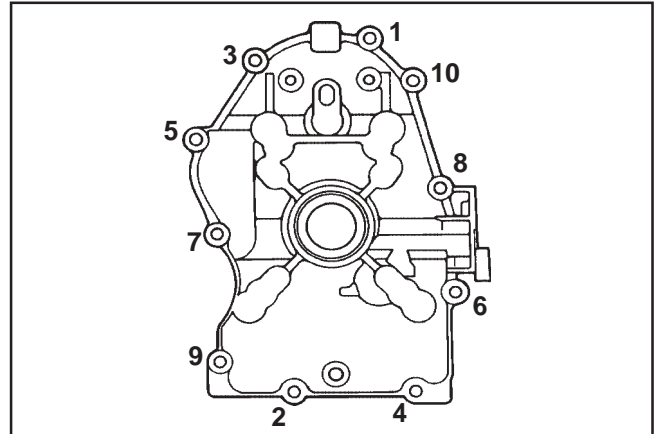

Figure 11-21. Closure Plate Fastener Torque Sequence.
6. Install the ten hex flange screws securing the closure plate to the crankcase. Torque fasteners in the sequence shown in Figure 11-21 to 24.4 N·m (216 in. lb.). On some engines one of the ten mounting screws is plated. The plated screw is typically installed in the #6 hole shown in Figure 11-21.